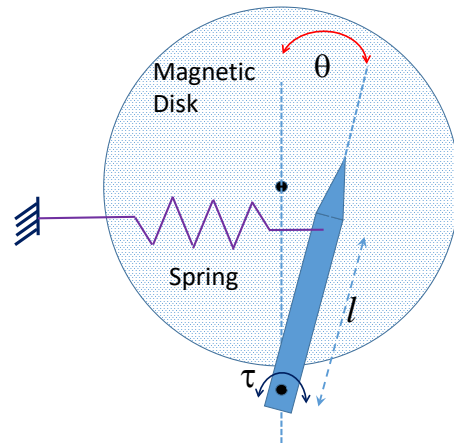

Figure 1: Schematic of Disk Drive read-head positioning mechanism.
**Problem #1:** Figure 1 shows a highly simplified diagram of a mechanism for positioning a magnetic disk drive “read head” on the disk platter.